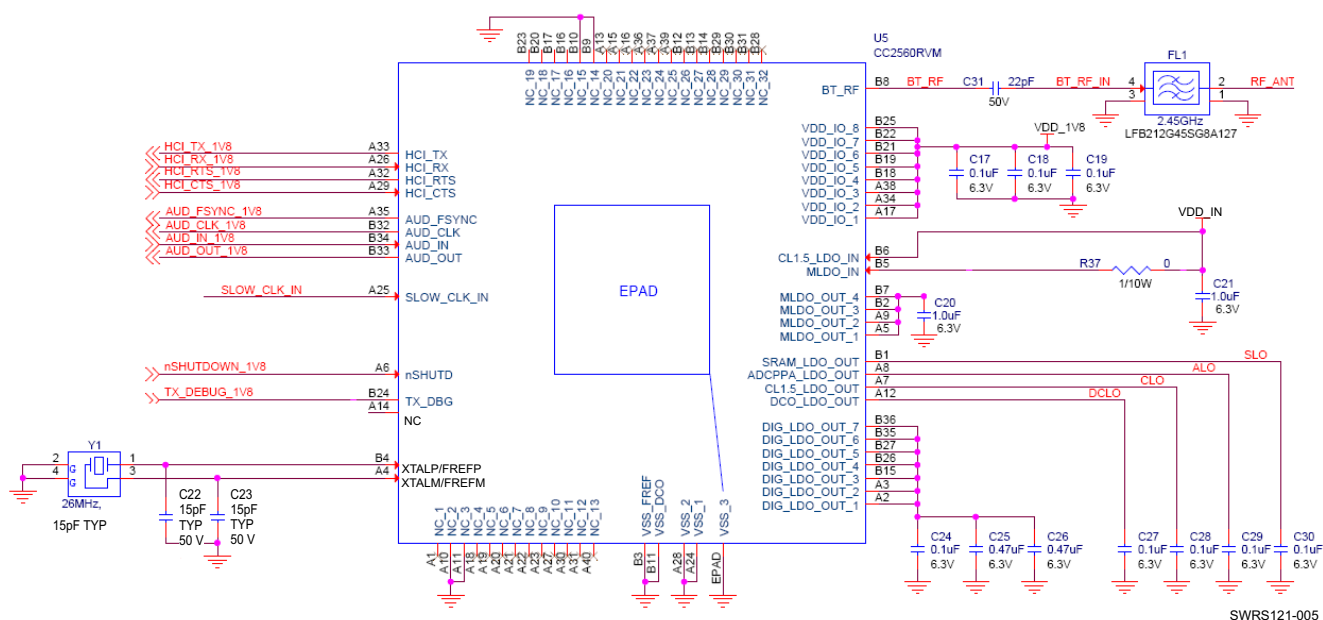

Figure 5-1. Reference Schematics
(1) Meets FCC and ETSI requirements with external filter shown in Figure 5-1
Figure 5-1 shows the reference schematics for the CC256x device. Consult TI for complete schematics and PCB layout guidelines.